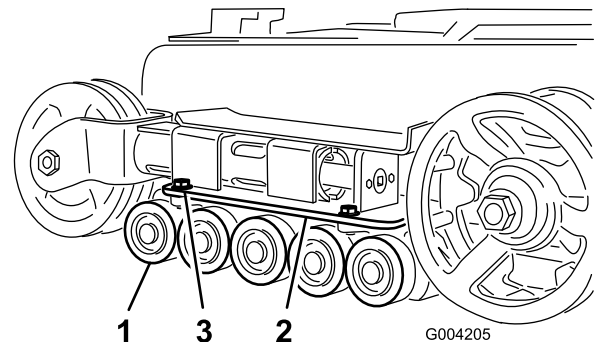

Figure 64
- Remove the 4 bolts securing each lower track guide which contains the road wheels, and remove them (Figure 64).